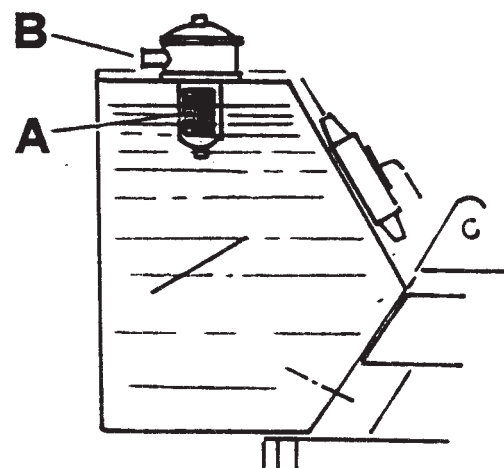

Fig. 34
After the first 40 hours and then every 300 hours' operation, replace the oil filter (A) fitted to the tank (FIG. 34).